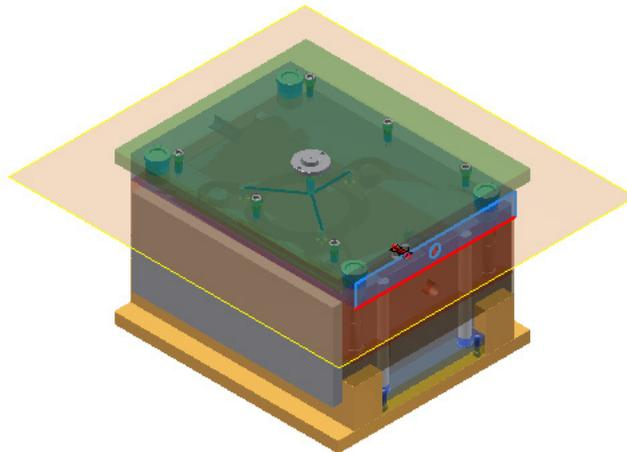

Figure 19-71 The face to be selected
2. Select the face shown in Figure 19-71; preview of the cooling channel is displayed.
4. Select the right vertical edge of the plane highlighted in Figure 19-71; the distance value is displayed with dimension line on the model and you are prompted to select a horizontal reference.
5. Select the top horizontal edge of the plane highlighted in Figure 19-71; the distance value is displayed.